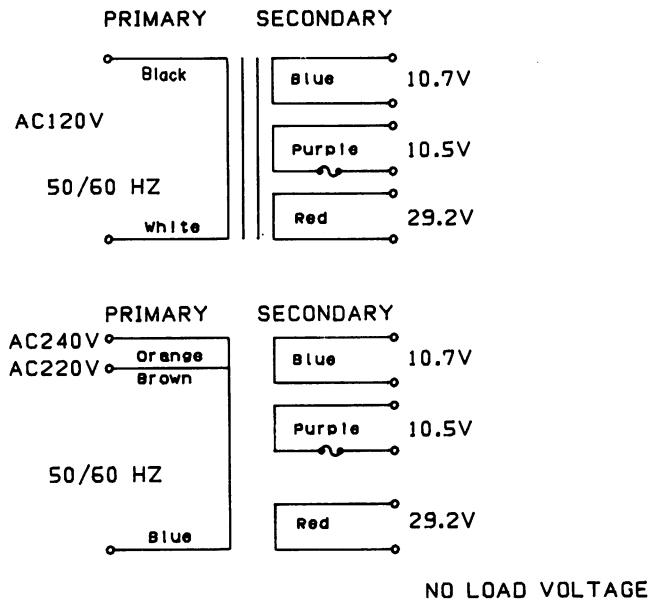

Fig. 2-4. Power Transformer Windings
2.2.2 Power Transformer (Fig. 2-4)